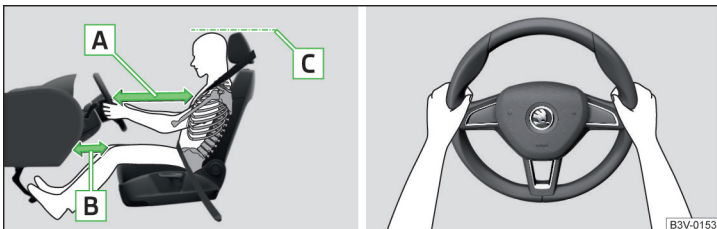

Fig. 2 Correct seated position for the driver/correct steering wheel position
- ✓ For vehicles equipped with driver knee airbags, adjust the driver's seat in a forward/back direction so that there is a gap of at least 10 cm between the legs and the dashboard in the vicinity of the knee airbag » Fig. 2 - B.
- ✓ Adjust the steering wheel so that the distance between the steering wheel and your chest is at least 25 cm » Fig. 2 - A.
- ✓ Adjust the headrest so that the top edge of the headrest is at the same level as the upper part of your head (not for seats with integrated headrests) » Fig. 2 - C.
- When driving, hold the steering wheel with both hands firmly on the outer edge in the "9 o'clock" and "3 o'clock" position » Fig. 2. Never hold the steering wheel in the "12 o'clock" position or in any other way (e.g. in the middle, inner edge of the steering wheel or similar). Otherwise, in the event of airbag deployment, you could suffer serious injury to the arms, hands and head.
- ✓ Adjust the headrests so that the top edge of the headrest is at the same level as the upper part of your head » Fig. 2 on page 12 - C (not for seats with integrated headrests).
- ✓ Adjust the headrests so that the top edge of the headrest is at the same level as the upper part of the head » Fig. 2 on page 12 - C.